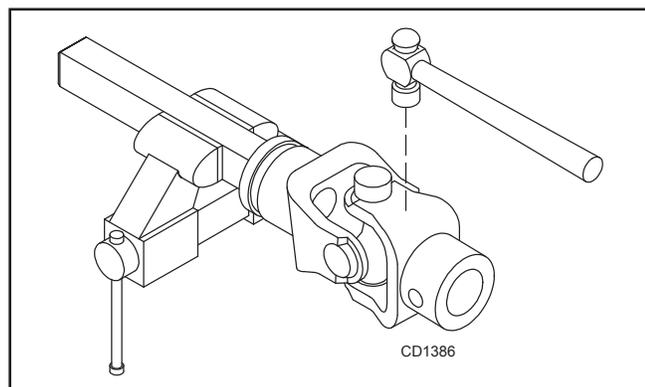

Figure 22.
2. With snap rings removed, support drive in vise, hold yoke in hand, and tap on yoke to drive cup up out of yoke. See Figure 22.